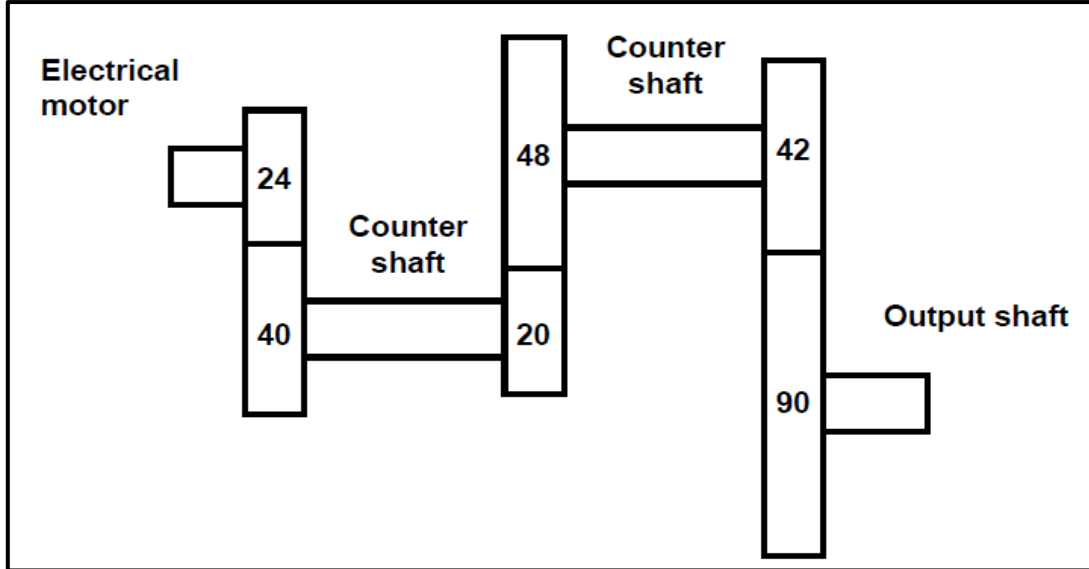

FIGURE 11.6
11.6 FIGURE 11.6 below shows a gear-drive system. A driver gear on the shaft of an electric motor has 24 teeth and meshes with a gear on a counter shaft with 40 teeth. On this counter shaft is another driver gear with 20 teeth that meshes with a gear with 48 teeth on a second counter shaft. The second counter shaft has a driver gear with 42 teeth which drives a gear with 90 teeth on the output shaft.